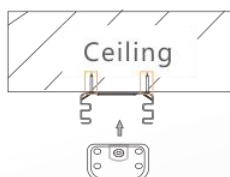

Fig.4
- Step4: Fix the tube into the buckle. (as Fig.4)